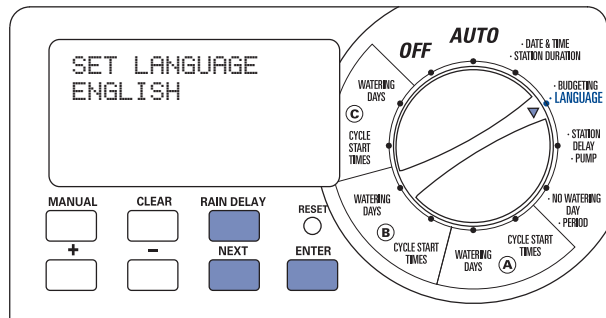

Figure 3: LCD Display Language Selection
3. Press the **NEXT** button until you reach the desired language [See Figure 3]